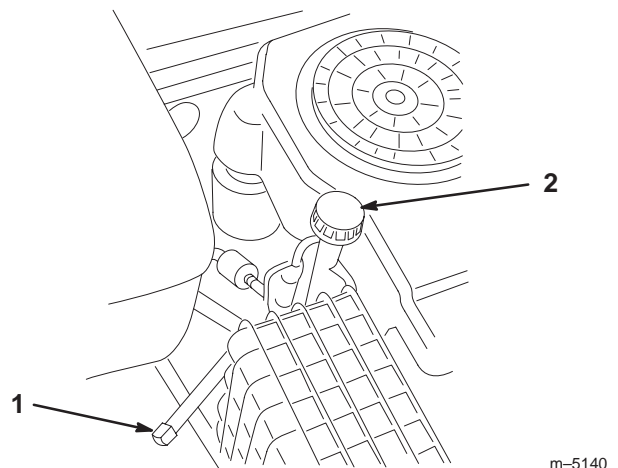

Figure 17
5. Place a pan below the oil drain. Remove the oil drain cap (Fig. 17).
7. Clean around the oil dipstick and unscrew the cap (Fig. 17).